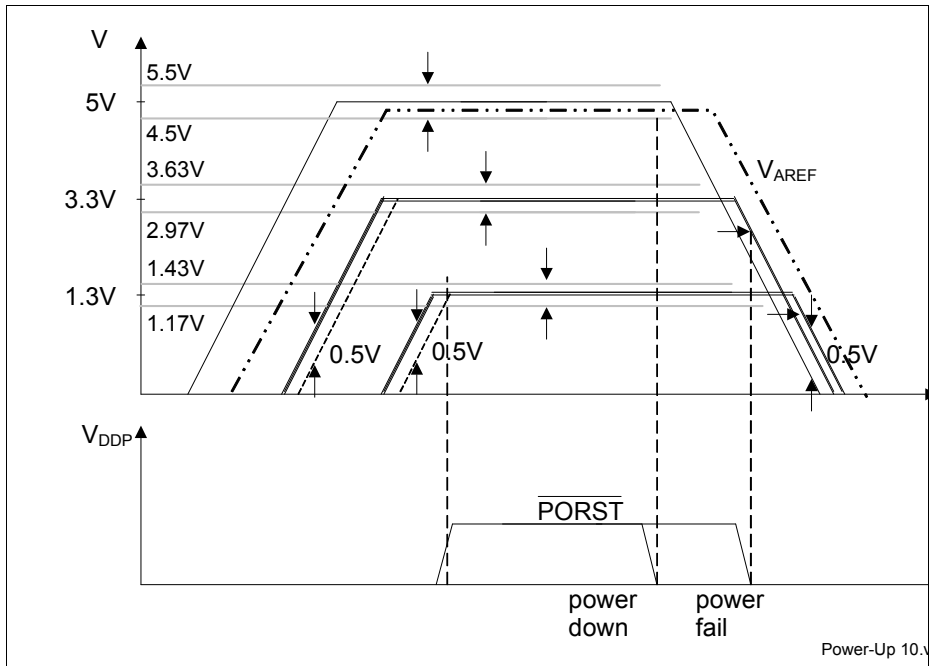

Figure 15 5 V / 3.3 V / 1.3 V Power-Up/Down Sequence
- At any moment in time to avoid increased latch-up risk, each power supply must be higher than any lower_power_supply - 0.5 V, or: $V_{DD5} > V_{DDP} - 0.5 \text{ V}$; $V_{DD5} > V_{DD} - 0.5 \text{ V}$; $V_{DDP} > V_{DD} - 0.5 \text{ V}$, see Figure 15.